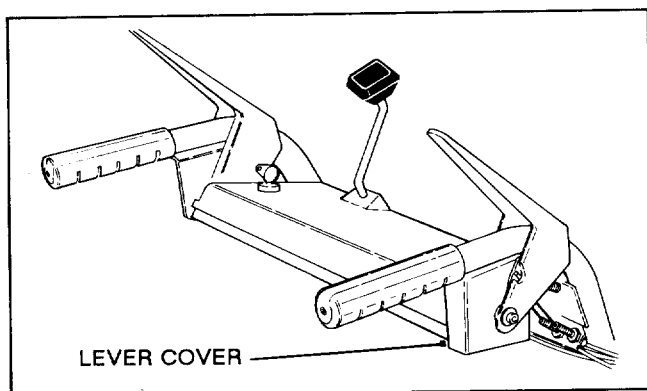

Figure 1
1. Remove (2) screws securing lever cover to right handle (Fig.1).